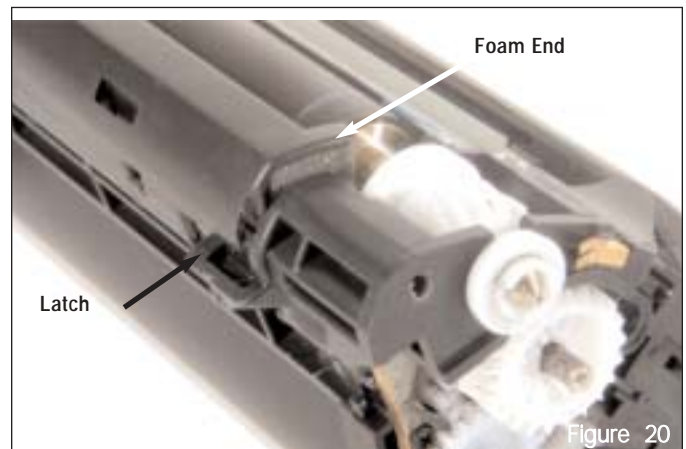

Figure 20
- a. Position the Cover with the Foam Ends facing in, over the latches (Figure 20).